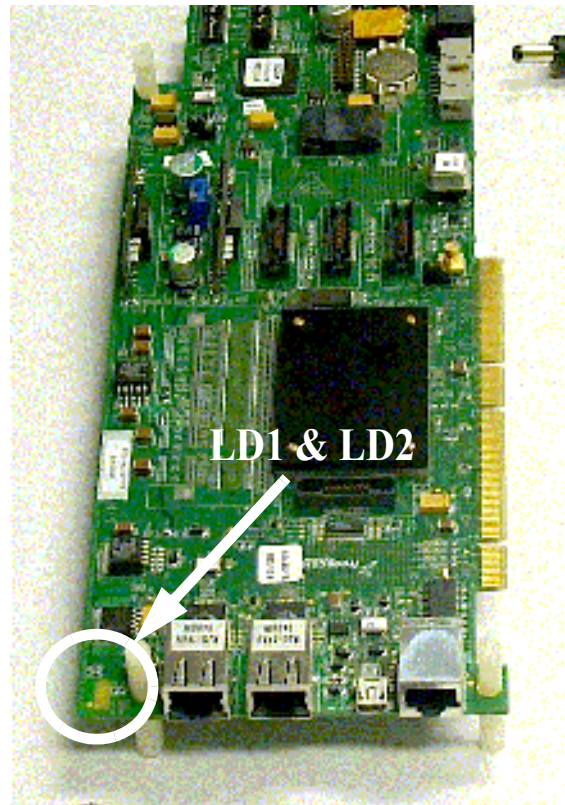

Figure 2-3. Boot-Up sequence: LD1 and LD2 (turn on, then off)
4. Verify that LD1 and LD2 turn on and turn off (see **Figure 2-3** for location). They should be on for only a few moments. This indicates that the board has successfully completed the boot-up sequence. (
4. Verify that LD1 and LD2 turn on and then turn off (see **Figure 2-3** for location). They should be on for only a few moments. This indicates that the board has successfully undergone the boot-up sequence.